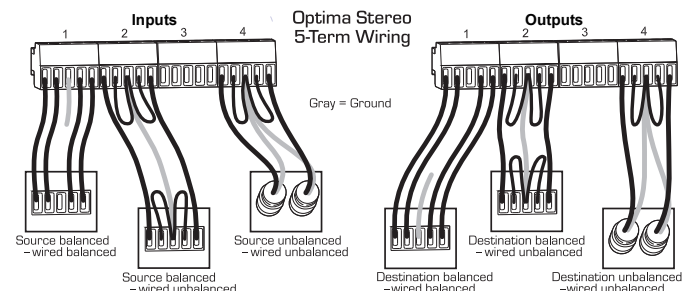

FIG. 5 Options for source-to-Optima-to-destination 5-Term wiring
**Note:** When using shielded twisted-pair wire, connect the shield (ground) at one end only (recommend receiving end) to minimize low frequency noise (see FIG. 5 below).
Source and destination devices require either balanced or unbalanced connections. More than one of the options shown in FIG. 5 can be used in the same system.